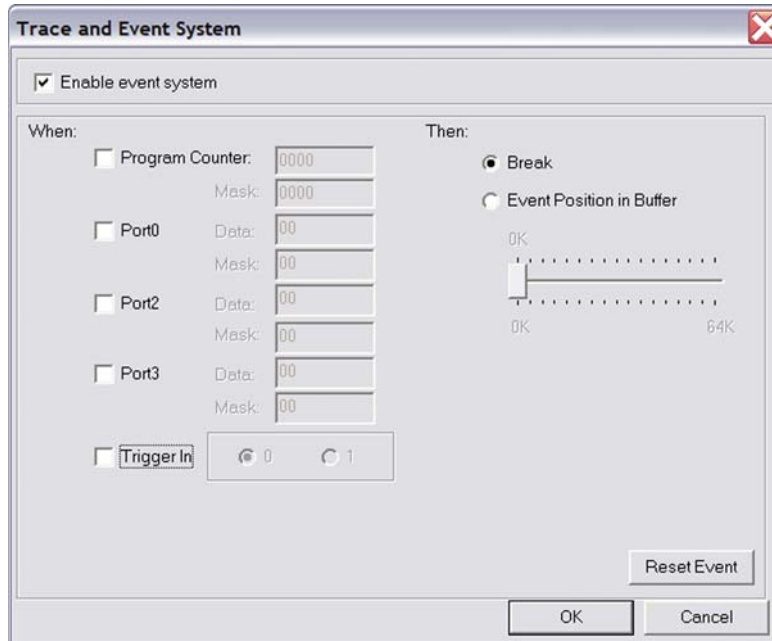

Figure 10. Trace and Event System Window
1. Select **Tools** → **Trace and Event System**. The **Trace and Event System** window appears, see Figure 10.
You can use the Trace and Event System to capture trace data before and after an event. Set up the events as described in Using an Event to Stop Execution on page 14. In the **Then:** section (see Figure 10), check **Event Position in Buffer** radio button instead of